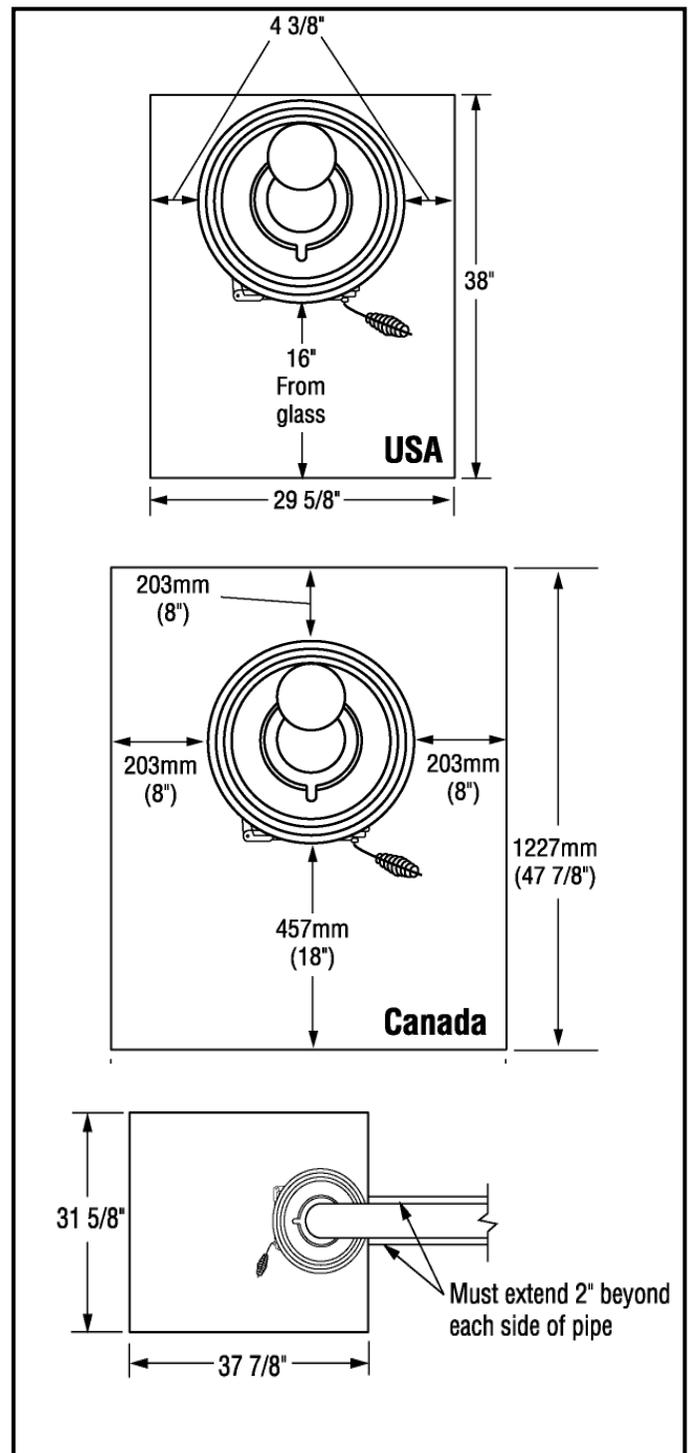

FIGURE 3. FLOOR PROTECTION
The T-4000 requires a non-combustible floor pad extending beneath the heater and to the front and sides as indicated (See FIGURE 3). This protector must be non-combustible, such as wonder board or similar product, which will protect floor from radiant heat given off by the unit and from sparks and falling embers. A thin layer of brick or ceramic tile over a combustible floor is not sufficient and will not meet code.
6. Floor protection requirements are found in FIGURE 3 and must be followed exactly.
7. In Canada, this appliance must be connected to a 6" (152mm) factory-built chimney conforming to CAN/ULC 629M. See FIGURE 3 for Canada floor protection requirements.